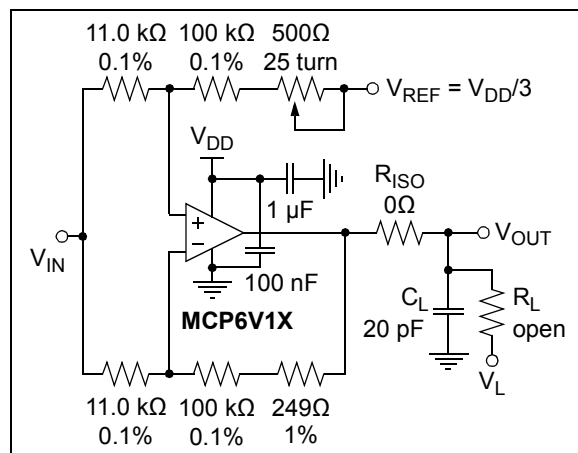

FIGURE 1-6: Test Circuit for Dynamic Input Behavior.
- Note 1:** These parameters were characterized using the circuit in Figure 1-6. In Figure 2-33 and Figure 2-34, there is an IMD tone at DC, a residual tone at 1 kHz and other IMD tones and clock tones.
The circuit in Figure 1-6 tests the input's dynamic behavior (i.e., IMD, t_{STR} , t_{STL} and t_{ODR}). The potentiometer balances the resistor network (V_{OUT} should equal V_{REF} at DC). The op amp's Common-mode input voltage is $V_{CM} = V_{IN}/2$. The error at the input (V_{ERR}) appears at V_{OUT} with a noise gain of 10 V/V.